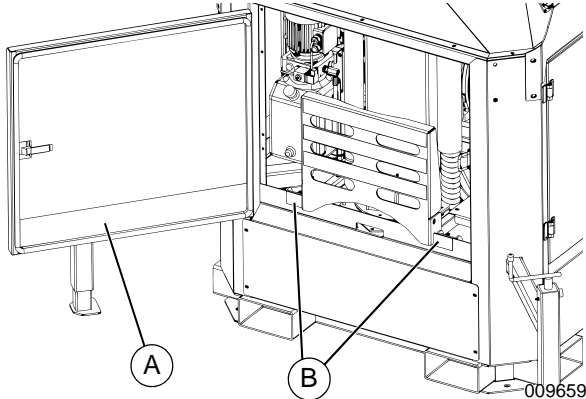

Figure 3-5. Foldout Step—Stowed Position
1. See **Figure 3-5**. Open engine inspection door (A).